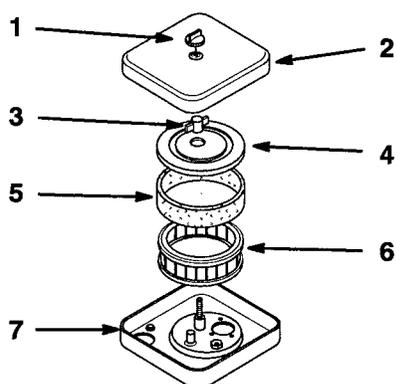

Figure 15
3. Clean around the air cleaner and move choke to "ON" to prevent dirt from getting into the engine and causing damage. Remove the knob and air cleaner cover (Fig. 15).
4. Unscrew the wing nut and remove the cover, foam element and paper element (Fig. 15).
5. Carefully slide the foam element off the paper element (Fig. 15).
- 1. Carefully slide the foam element onto the paper air cleaner element (Fig. 15).
- 2. Place the air cleaner assembly into air cleaner base. Slide cover onto rod and secure with wing nut (Fig. 15).
- 3. Install the air cleaner cover and secure with knob (Fig. 15).